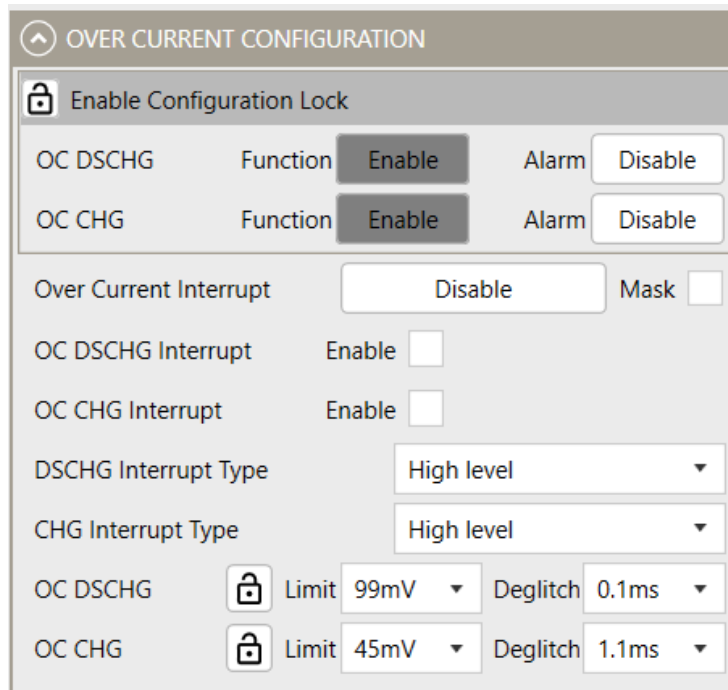

Figure 18: Over-Current (OC) Configuration
13. Figure 18 shows how to configure the OC parameters.